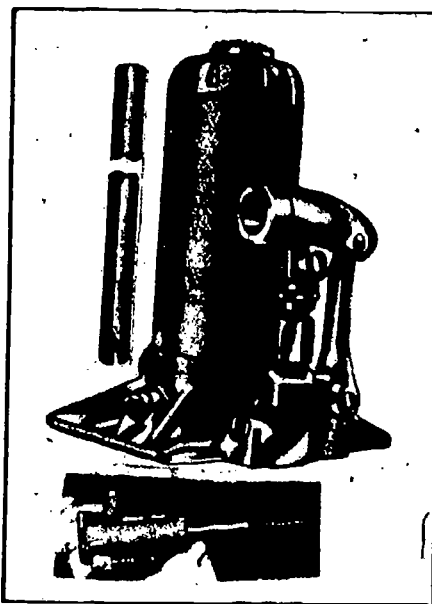

Fig 1-14. Hand hydraulic jack.
a. **Jacks.** The hand hydraulic jack (fig 1-14) is usually the easiest item of hoisting equipment to obtain. The capacity is stamped on a plate and attached to the jack. A jack is a part of the collateral materiel of motor transport vehicles. When placed on a suitable base, the jack will lift most items that require raising for repairs. The jack was designed to be used in the vertical position, but by placing the pump on the low side it can be used horizontally. The height of the jack can be adjusted by turning the threaded screw in or out of the hydraulic piston. Located at the base of the jack near the pump is a valve that controls the return flow of hydraulic oil. The handle of the jack serves as a wrench to close the valve and to operate the pump. The jack should be checked before each use and cleaned after each use. Before returning to storage, push the hydraulic piston all the way down and turn the adjusting screw in to the lowest position, but do not tighten or force it. Keep the screw threads clean and lightly oiled to prevent rust and corrosion.